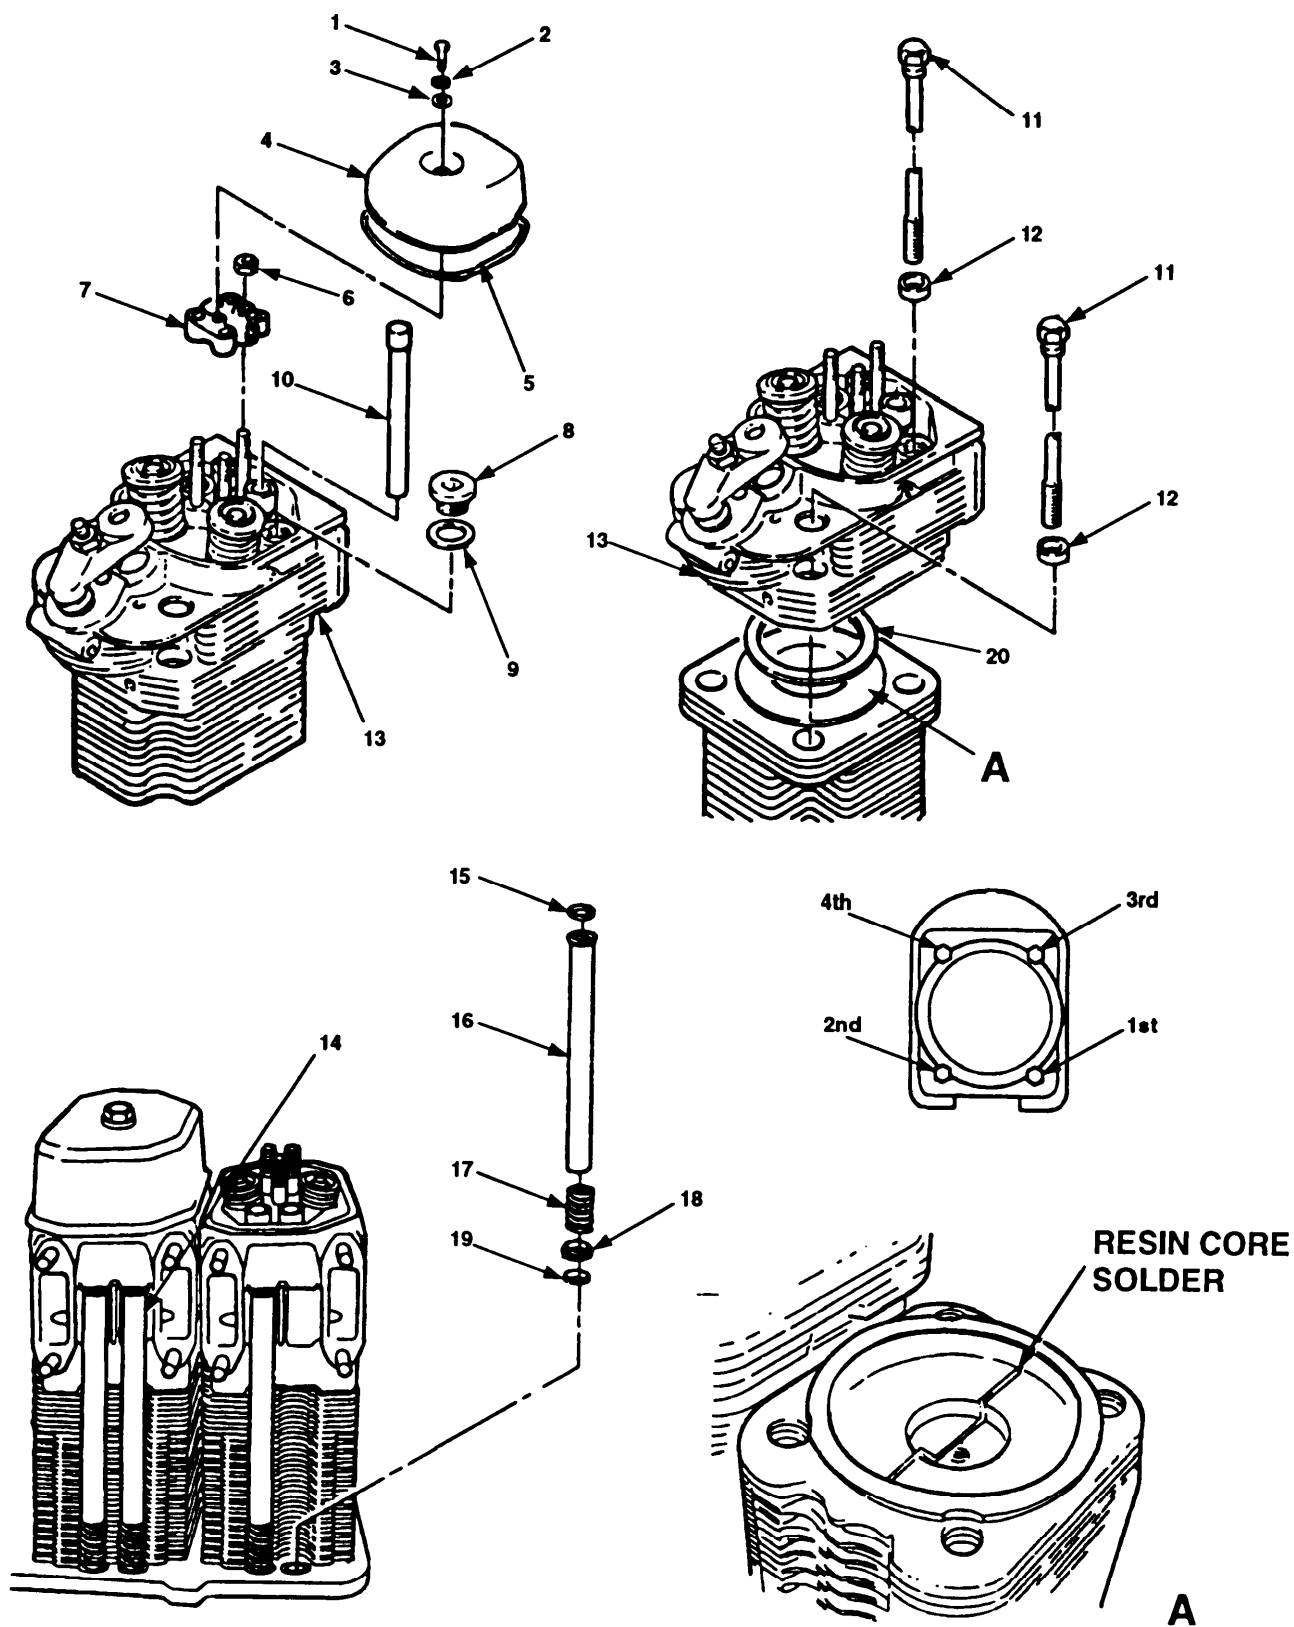

Figure 6-1. Cylinder Head Removal and Installation.
- a. Remove rocker cover bolt (figure 6-1, 1), lockwashers (2) and washer (3).
- b. Remove rocker cover (4) and rocker cover gasket (5).
- c. Remove three nuts (6) and rocker arm assembly (7).
- d. Remove two cover plugs (8) and gaskets (9).
- e. Remove two pushrods (10).
- f. Remove four cylinder head bolts (11) and washers (12).
- g. slowly lift cylinder head (13) from cylinder while keeping pushrod cover tube assemblies (14) steady; then remove the pushrod cover tube assemblies.
- h. Remove washer (15), pushrod cover tube (16), spring (17), cap (18), and washer (19) from each pushrod cover tube assembly.
- i. Remove intermediate ring (20).
- a. Coat a piece of 2mm resin core solder with grease and place it in position on piston crown at right-angles to center line of engine, as shown in figure 6-1, view A, but not on any stenciling on piston.
- b. Measure length of each cylinder head bolt (11).
- (1) Install intermediate ring (20) on block.
- (2) Install cylinder head (13) on cylinder.
- (3) Install washers (12) and cylinder head hits (11), then slightly tighten cylinder head bolts.
- e. Tighten head bolts in sequence, as shown in figure 6-1, through first stage 45° angle.
- g. Remove cylinder head (13), and measure the thickness of the resin core solder at its smallest point.
- h. When thickness is not between 0.40 and 0.48 inches (1.0 and 1.2 mm), add shims at bottom of cylinder (paragraph 6.6.2) and repeat adjustment. When thickness is correct, install cylinder head (13) .
- a. Install intermediate ring (20).
- b. Install cylinder head (13), four washers (12) and cylinder head bolts (11).
- c. Tighten head bolts in sequence shown in figure 6-1 and torque in accordance with appendix G.
- d. Install new gaskets (9) and cover plugs (8), then torque plugs in accordance with Appendix G.
- e. Using spring tensioning tool, assemble and compress spring (17) on pushrod cover tube (16) .
- f. Install cap (18) with open side towards spring.
- g. Install new washer (19), with wide end face toward end of pushrod cover tube (16).
- h. Install new washer (15), with wide end face toward upper shoulder on pushrod cover tube (16) .
- i. Insert spring end of pushrod cover tube (16) in crankcase hole. Position upper end of pushrod cover tube (16) with cone in cylinder head (13) .
- j. Slowly remove spring tensioning tool, while guiding upper end of pushrod cover tube (16) into cylinder head (13).
- m. Install pushrods (10) with cup ends up.